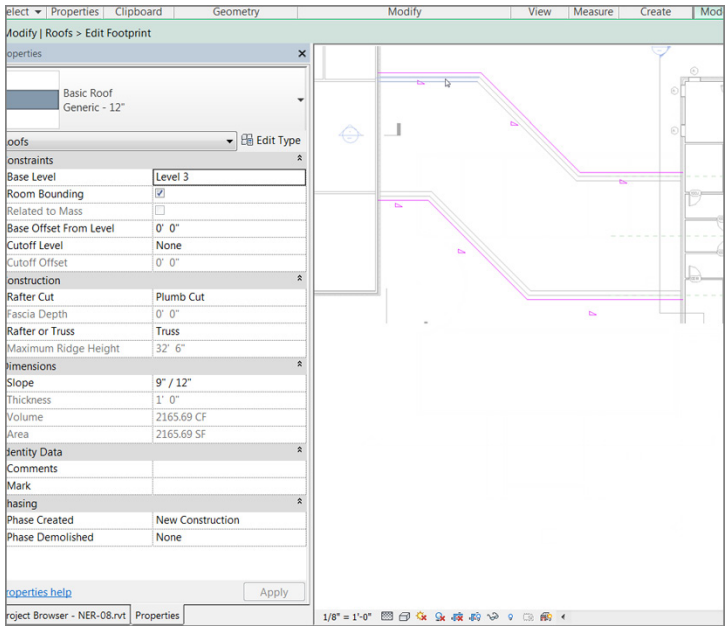

FIGURE 7.23: Pick these walls for the roof’s footprint.
- 6. Pick the six walls that compose the corridor, as shown in Figure 7.23.